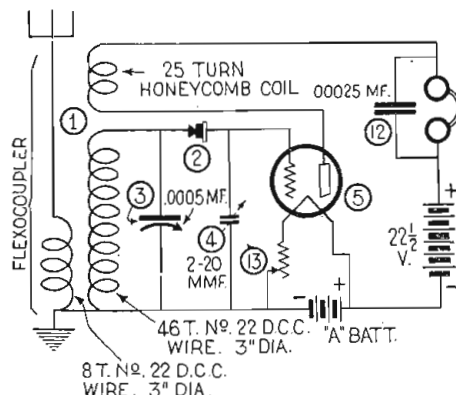

Fig. 1. The fundamental circuit of the Regenerative Interflex, showing the crystal detector, 2, in the grid circuit.
The system for the transmission of signals may be grouped into three parts (see Fig. 1), as follows: The low power modulating and amplifying stages, shown in the light lines; the high power amplifiers, that are shown in heavy lines and to the right; and the rectifier that supplies the power amplifier with high voltage direct current, shown in the lower right-hand side of the diagram.
The output of the 750-watt amplifier is applied to the input of the larger power amplifier system, beginning with the 15 kw. amplifier shown in Fig. 1. This consists of two water-cooled tubes in parallel, operating at approximately 10,000 volts. The input of this amplifier is applied by means of a transformer to the input of the 150-kw. amplifier, which consists of two units of 10 water-cooled tubes each, all operating in parallel at about 10,000 volts.
Let us first see what happens in the fundamental circuit shown in Fig. 1. Here we have first a crystal detector inserted into the grid circuit. The crystal, in order to operate correctly, must act as a detector. That means that the tube to which it is connected becomes an amplifier. We now feed back energy from the plate to the grid circuit. It is evident that the crystal (2) is not only a detector but also acts as a resistance, and if this resistance becomes too great, the set will not oscillate (squeal). If the resistance